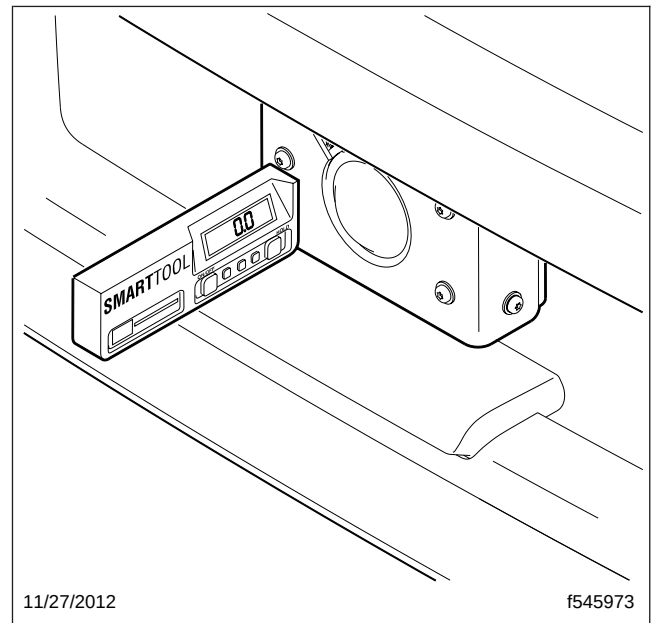

Fig. 2, Vertical Alignment Using a Digital Level
6. Set the vertical alignment using a digital level. See Fig. 2.